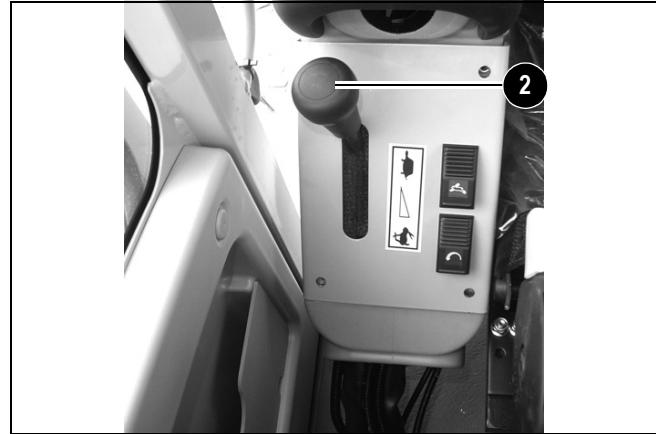

Figure 3-5 Throttle Lever
The engine speed is controlled by the throttle lever (2) located behind the left joystick. See Figure 3-5.